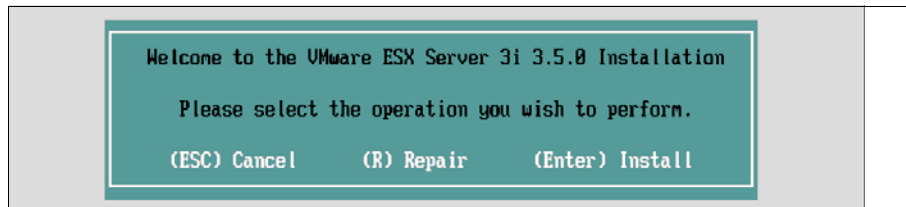

Figure 5-27 Welcome window for ESXi Installer
5. The ESX Server runs through its boot process until the Welcome window opens, as shown in Figure 5-27.